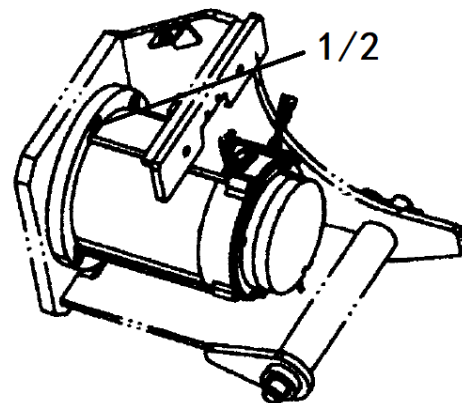

Fig. 3.36 Driving motor
**CAUTION:** The Fig. 3.36 only shows the installation of one cylinder, and can be referenced for installation of other cylinders;